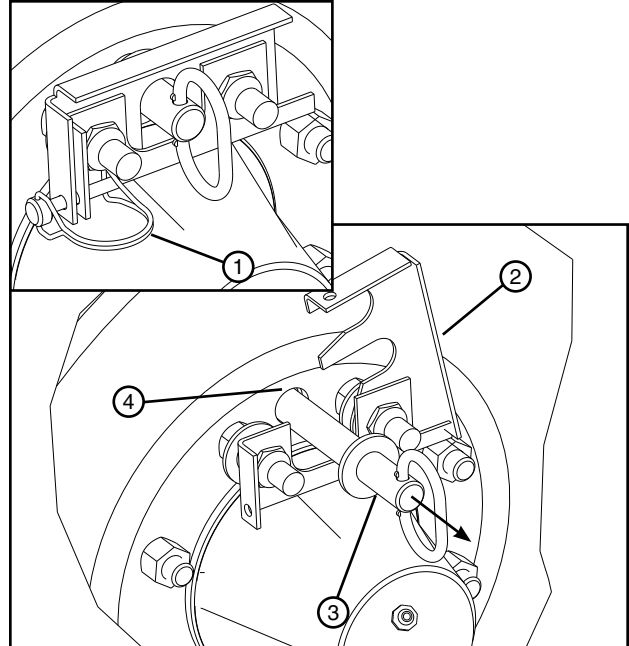

Figure 31-1 1. Lynch Pin 2. Retainer Clip 3. Torque Pin 4. Hub Torque Pin Receiver
5. Remove lynch pin from retainer clip, then open retainer clip and pull the torque pin from axle torque arm behind gearbox hub and hub torque pin receiver. See figure 31-1.